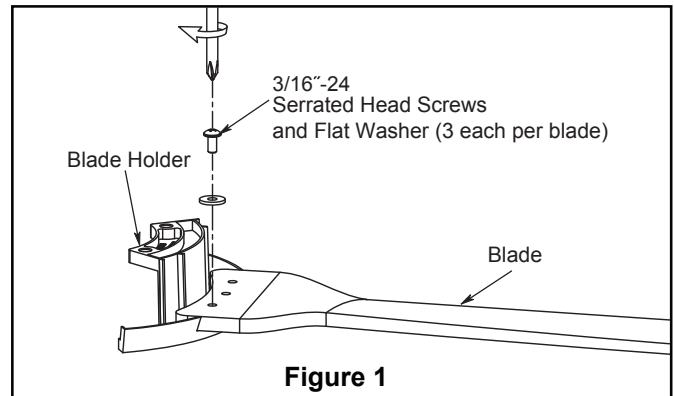

Figure 1
Your new ceiling fan will require a grounded electrical supply line of 120 volts AC, 60 HZ, 15 Amp Circuit. Electrical code requires use of a fan-rated outlet box to support the extra weight and motion associated with a ceiling fan. A fan-rated box will be labeled as such and typically supports up to a 70lb ceiling fan. Fan-Rated Outlet Boxes vary in ratings and design. Ensure the ratings of your ceiling fan outlet box meet the requirements for the ceiling fan being installed. Figure 1, Figure 2 and Figure 3 depicts different structural configurations that may be used for mounting the outlet box.
Low profile box (Figure 1)
To avoid possible electrical shock, be sure electricity is turned off at the main fuse box before hanging and wiring. (Figure 1)
1. Assemble the motor assembly to ceiling bracket assembly using the previously removed hex nuts and flat washers and securely tighten all hex nuts. (Figure 1)
1. Position the blade over the blade holder with threaded posts showing. Make sure the bottom edge of the blade is fully seated against the blade holder. With a phillips screwdriver, tighten 3/16"-24 serrated head screws and flat washers to secure the blade to the blade holder. (Figure 1)
1. Remove one of the three screws in the support bracket at the bottom of the motor assembly. Slightly loosen the remaining two screws. Assemble the light plate assembly to the support bracket using the two key slots in the light plate. Replace the third screw and securely tighten all three screws. (Figure 1)